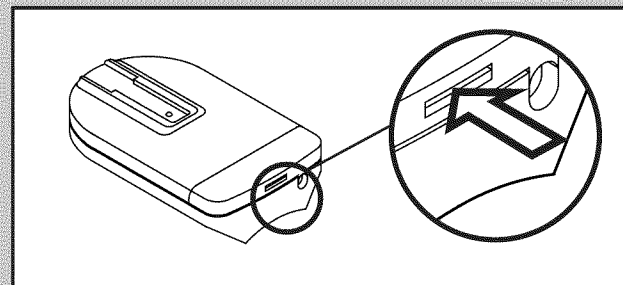

Fig. 10-1
**1. Turn remote control upside down (Fig. 10-1)**
- Gently push straight IN on tab as shown (Fig. 10-1).